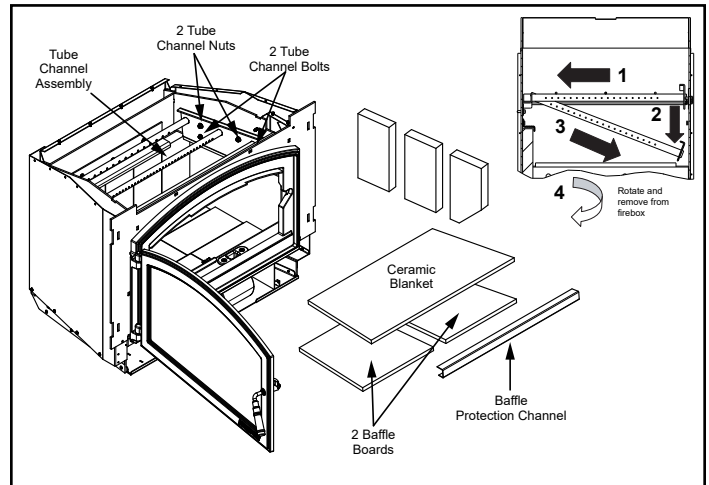

Figure 5.12
4. Slide the tube channel assembly all the way to left until it is off the threads. Drop the right side down, then slide the assembly back to right (**Figure 5.12**).